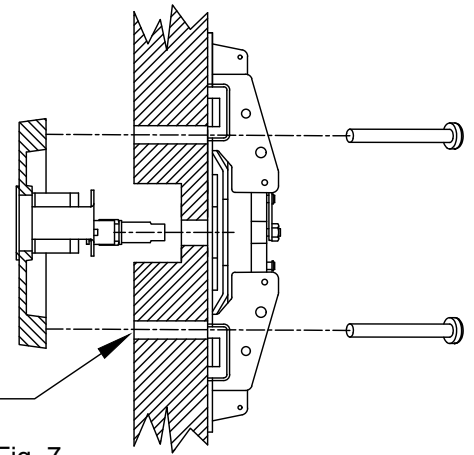

Fig. 7
4. (Fig. 7) With the key out of the cylinder, align the tailpiece extension into the backplate's trim cam on the inside door face.